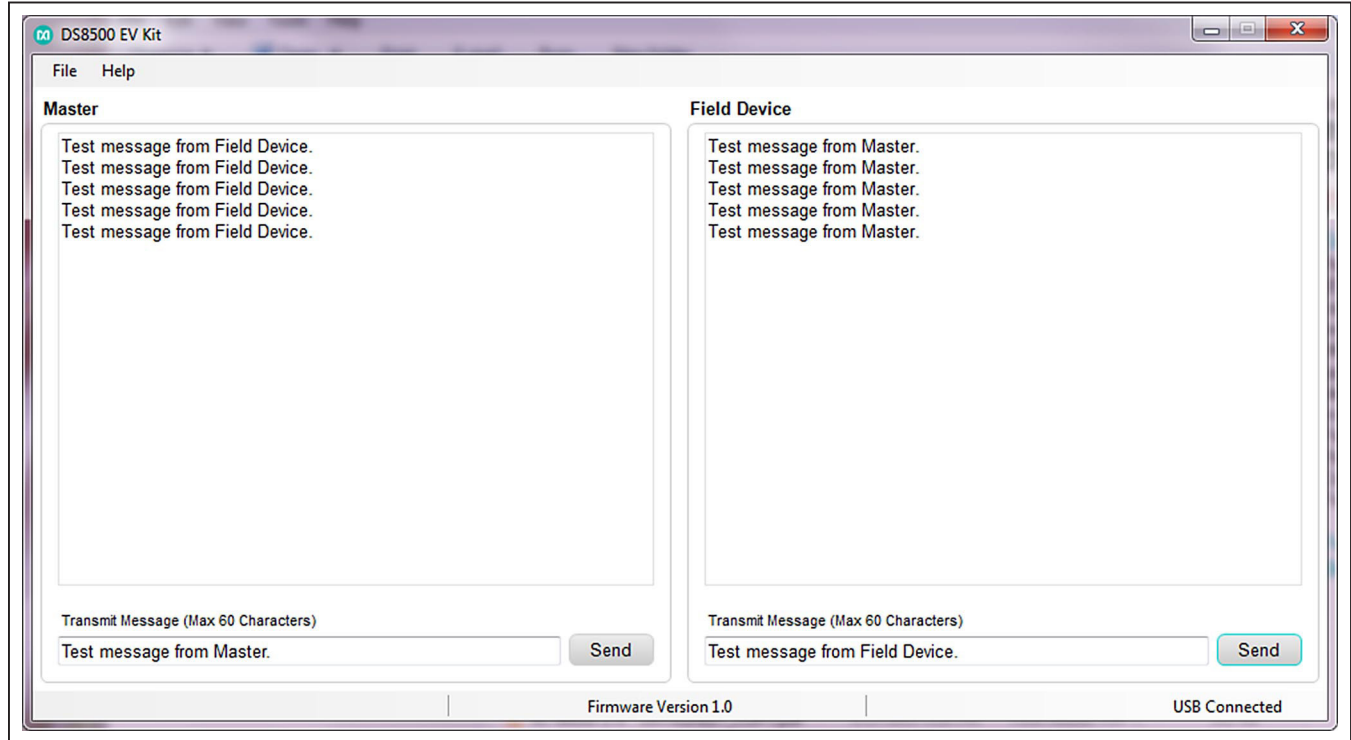

Figure 2. DS8500 EV Kit Demo GUI
- 4) Start the DS8500 EVKIT GUI from the **Start** menu by selecting **Maxim Integrated | DS8500 | DS8500 Evaluation Kit**. Figure 2 shows the demo GUI. It automatically finds the USB-connected EV kit.